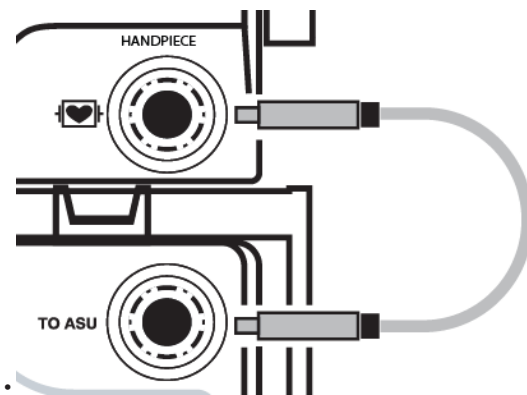

Figure 6: Connecting RF Interface Cable (ASU/ASB front panels)
5. Connect both the connectors into the Handpiece Receptacles on the front panel(s) of the ASU and ASB until a click is audible, the connectors are keyed for alignment (refer to **Figure 6**).